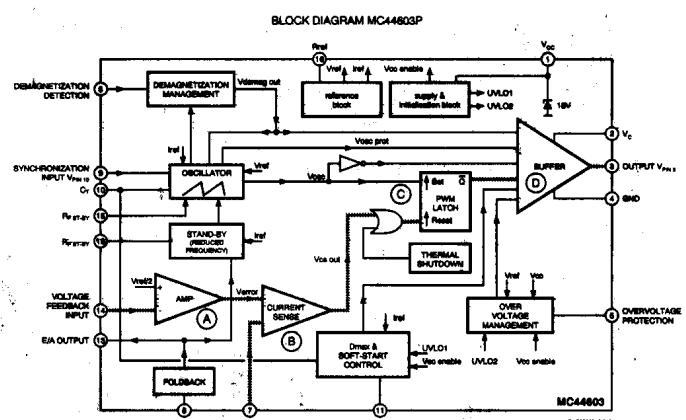
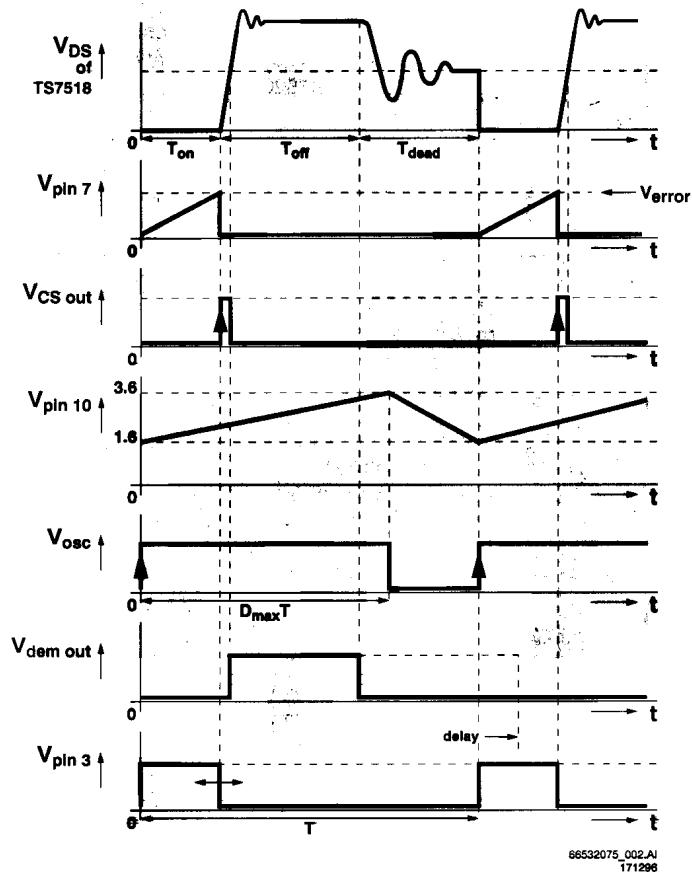

Fig. 9.2
Fig. 9.3
9.3.5 IC7520 control (see Fig. 9.2 and Fig. 9.3)
The error amplifier (block A in Fig 9.2) compares the feedback voltage V_{pin14} with an internal reference voltage of 2V5. The output voltage $V_{error-out}$ of this error amplifier is fed to another comparator (block B in Fig 9.2). This comparator compares the $V_{error-out}$ and the current sense voltage V_{pin7} . As soon as the current sense voltage V_{pin7} becomes higher than the output-voltage of the error amplifier $V_{error-out}$, the comparator B gives a spike (the output of comparator B is the so called current sensing output-voltage $V_{cs\ out}$).
Flip flop (block C in Fig 9.2) drives the output pin 3 (V_{pin3}) via a buffer amplifier (block D). The flip flop is set by positive edge of the output of the oscillator (V_{osc}) and reset by the spike $V_{cs\ out}$. As a result the pulse V_{pin3} becomes "high" (T-on starts) by the positive edge of V_{osc} from the internal oscillator and "low" (T-on stops) by the spike of $V_{cs\ out}$ (the T-on start will be delayed in case the transformer is not yet demagnetised; see the slow-start procedure).
9.3.7 Stable load and increasing / decreasing load (see Fig. 9.3);